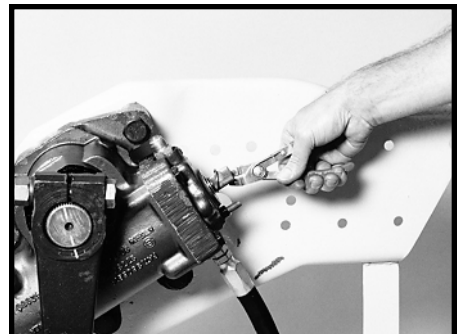

Figure 23
- 2.4 Remove the seal retaining ring (5) from the valve housing (9). SEE FIGURE 23.